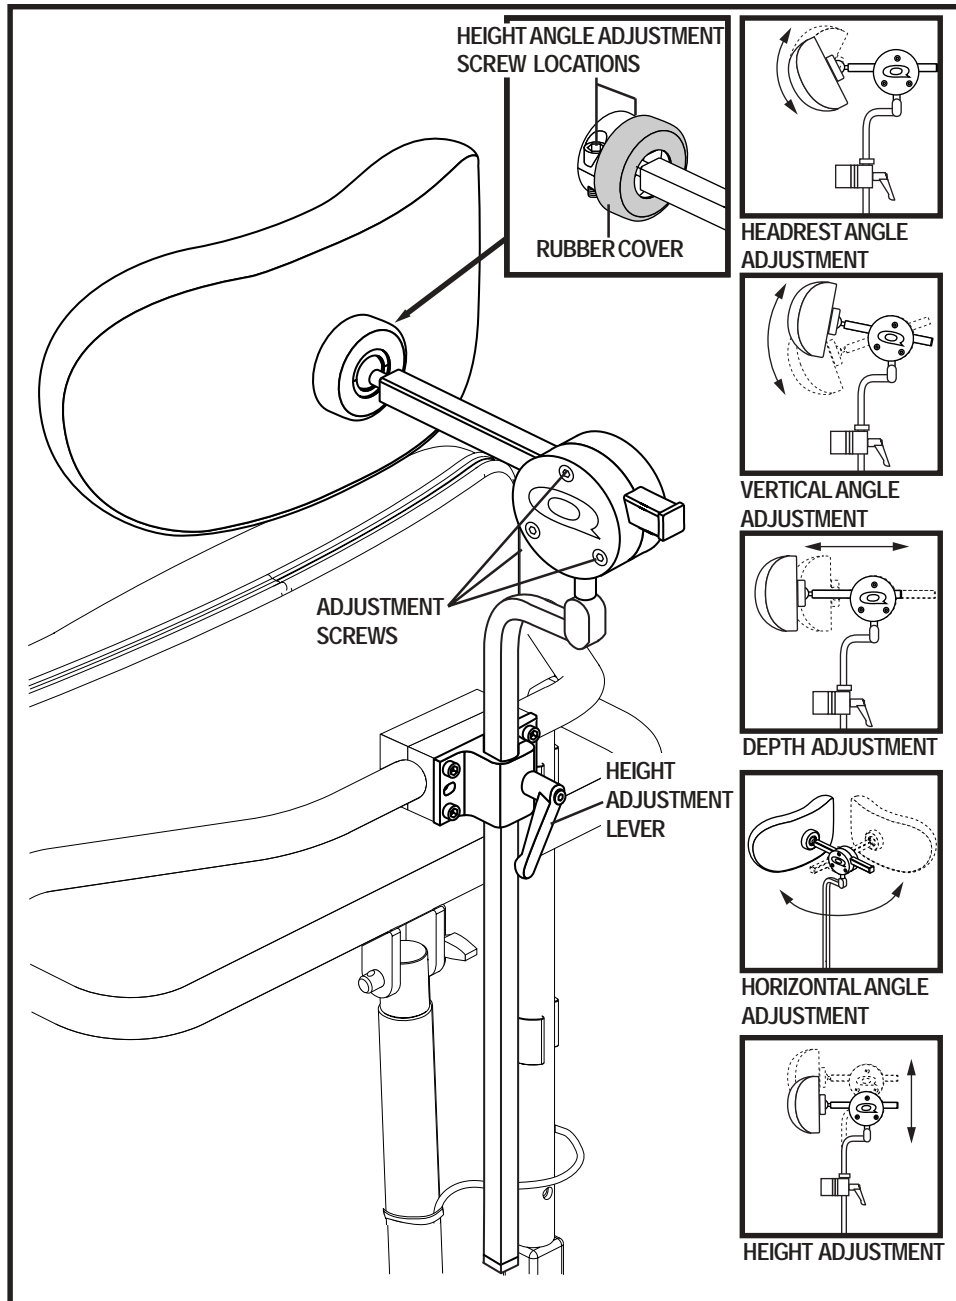

Figure 14. Quantum-style Headrest Adjustments
1. Loosen the height adjustment lever. See figure 14.
1. Loosen the three adjustment screws as necessary for desired movement. See figure 14.
1. Pull the rubber cover back. See figure 14.
2. Loosen the two headrest angle adjustment screws. See figure 14.